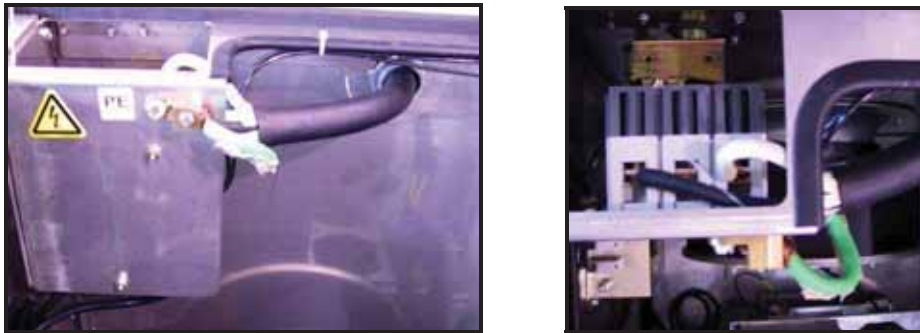

Figure 9 Terminal Connections of Main Power Feed
3. Connect the power cables to the terminal lugs inside the unit (Refer to Figure 9).
6. Terminate the conductors on the chassis ground point on the circuit breaker bracket (Refer to Figure 9).
An external alarm to the HOGEN generator may be connected to confirm system status. Both Normally Closed (NC) and Normally Open (NO) contacts are available on the 9-pin serial connector located on the rear panel of the generator, as shown in Figure 9. The